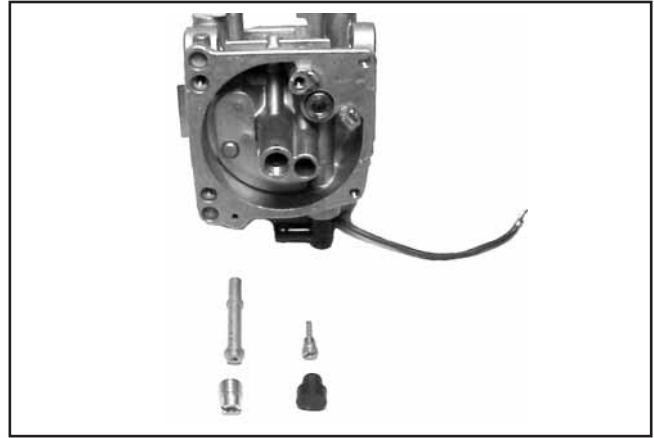

Figure 5-17. Main Jet and Slow Jet Removed.
3. Remove and discard the round plug from the bottom of the slow jet tower of the carburetor body. Use an appropriate size flat screwdriver, and carefully remove the slow and main jets from the carburetor. After the main jet has been removed, the main nozzle can be taken out through the bottom of the main tower. Save the parts for cleaning and reuse. See Figure 5-17.